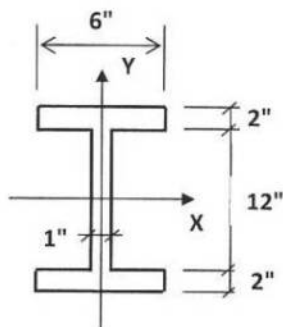

Fig. 3
4. Compute the yield moment and plastic moment capacities and shape factor for major axis (X-axis) bending of the I-section shown in Fig. 3. Given: $F_y = 50$ ksi. 8 1/3